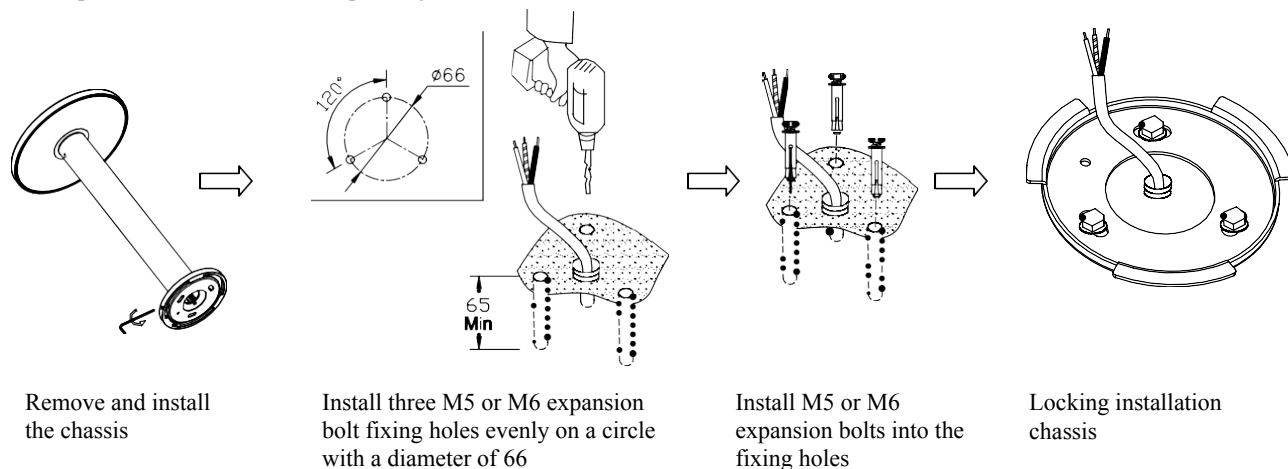

Figure 2.
2. Open the packaging, take out the lamp, use an internal hexagonal wrench (2.5mm) to loosen the fastening screws on the side of the base, take out the installation chassis, drill the holes required for the expansion bolts on the installation surface as shown in Figure 2, and the depth of the holes should be greater than the length of the expansion bolts. Install the expansion bolts into the corresponding installation holes and lock the installation chassis;